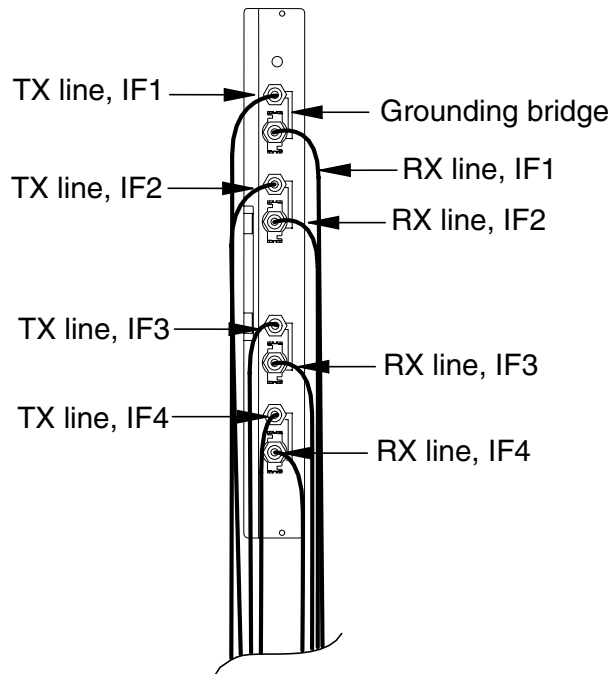

Figure 21. Cabling of the FXC E1 transmission unit
The FXC E1 has four pairs of 75 Ω connectors (type BT-43). Each pair forms a transmission interface (IF). The upper connector is always the TX connector of any given transmission interface. The lower connector is always the RX connector of any given transmission interface (see Figure 21).
The 75 Ω TX and RX connectors are connected to each other with a grounding bridge (see Figure 21). If the grounding bridge is removed, the grounding of the RX connector's outer conduct changes from direct grounding to capacitive grounding.
1. If you want to remove the grounding bridge (see Figure 21), use a 10 mm hexagon socket to loosen both connectors and pull out the bridge. Retighten the connectors.
2. Connect the connector of the received (RX) signal line to the 75 Ω RX connector on IF1.
3. Connect the connector of the transmitted (TX) signal line to the 75 Ω TX connector on IF1.
4. Cable the other IFs in the same manner (see Figure 21).